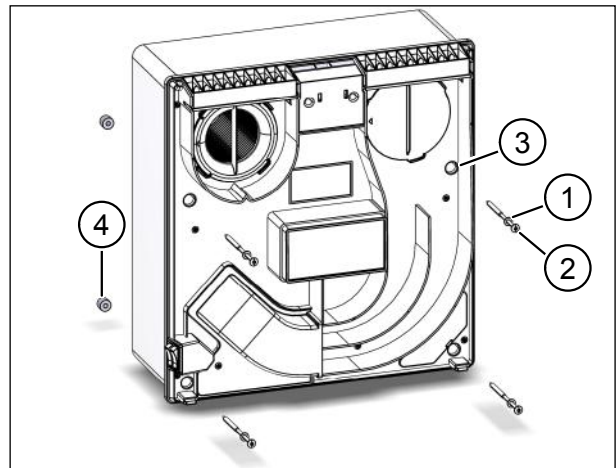

Fig. 23: Inserting the fixing screws
- ▶ Place the washers (item 1 in Fig. 23) on the cross-head screws (item 2 in Fig. 23) and introduce them into the holes in the housing (item 3 in Fig. 23).
- ▶ Screw the four centring guides (item 4 in Fig. 23) onto the four cross-head screws at the back until the tip of each cross-head screw protrudes roughly 10 mm over the centring guide.